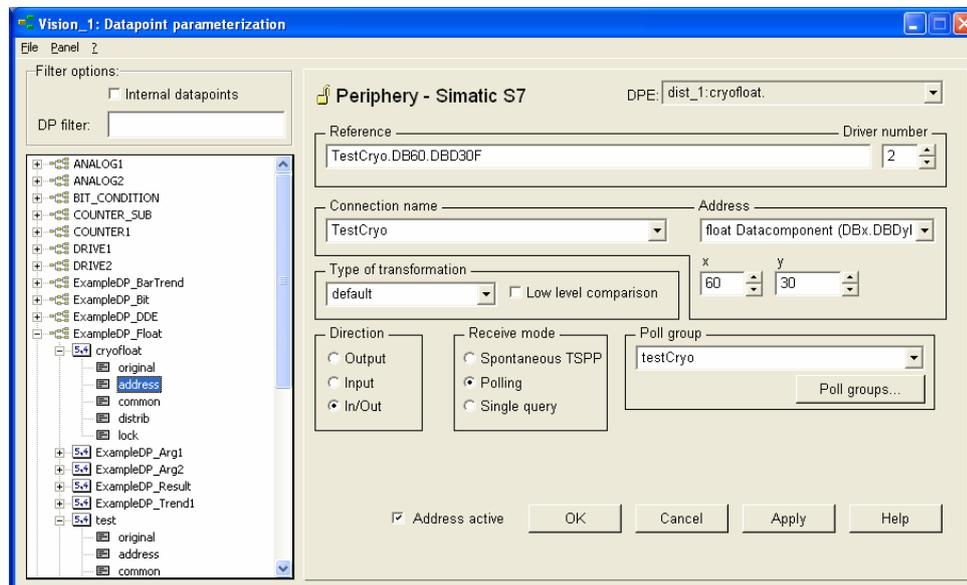

Figure 9 - Periphery S7 configuration
- (4) Set up your DPE address configuration parameters showed in the *Periphery S7* panel (Figure 9).